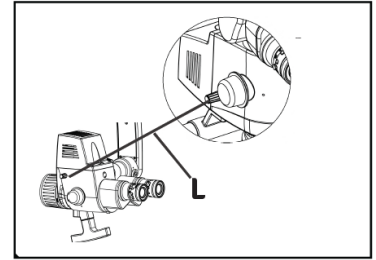

Fig. 46
Refer Fig. 46 (L). Filter change Lever is located in left side of the magnichanger housing. Use lever by pulling out to change the filter and push back to main light.